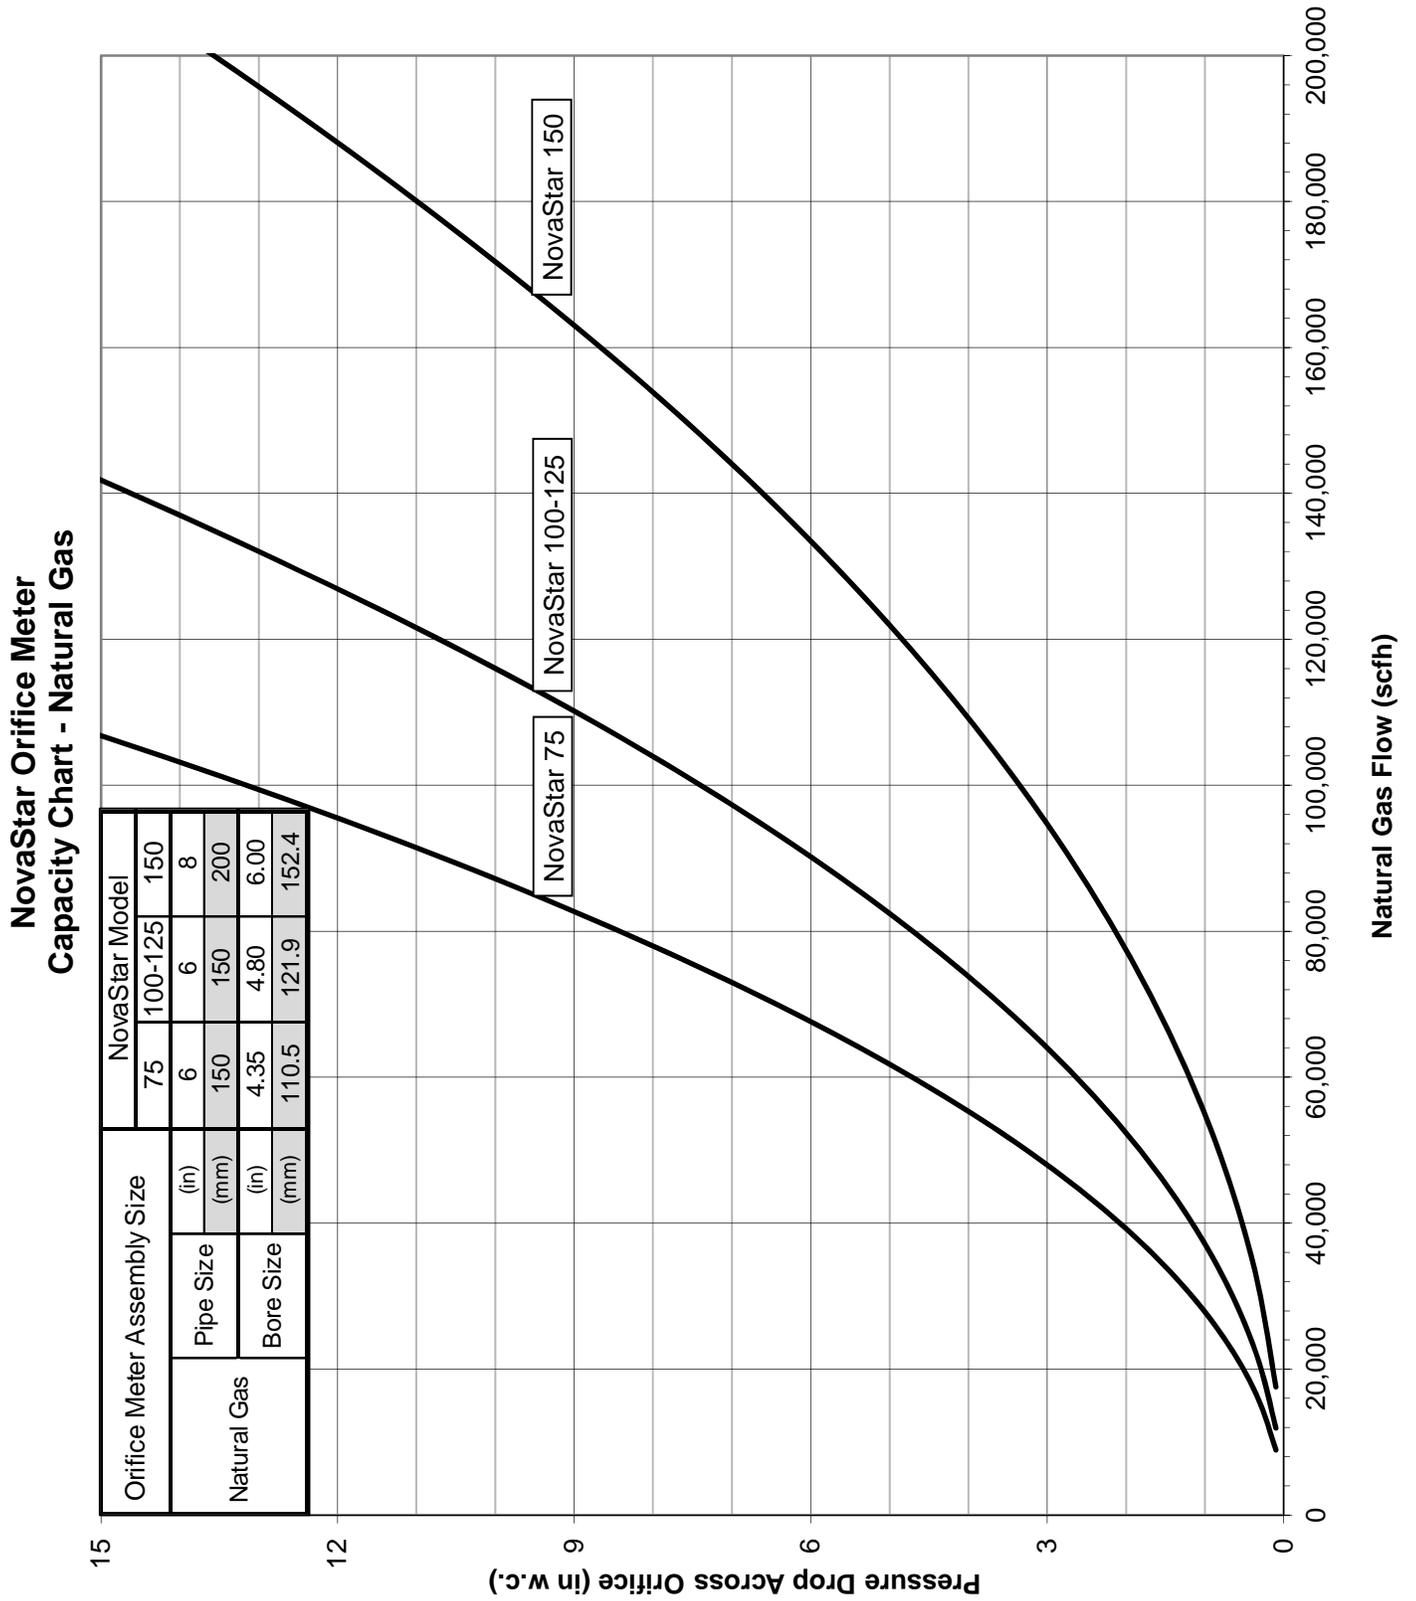
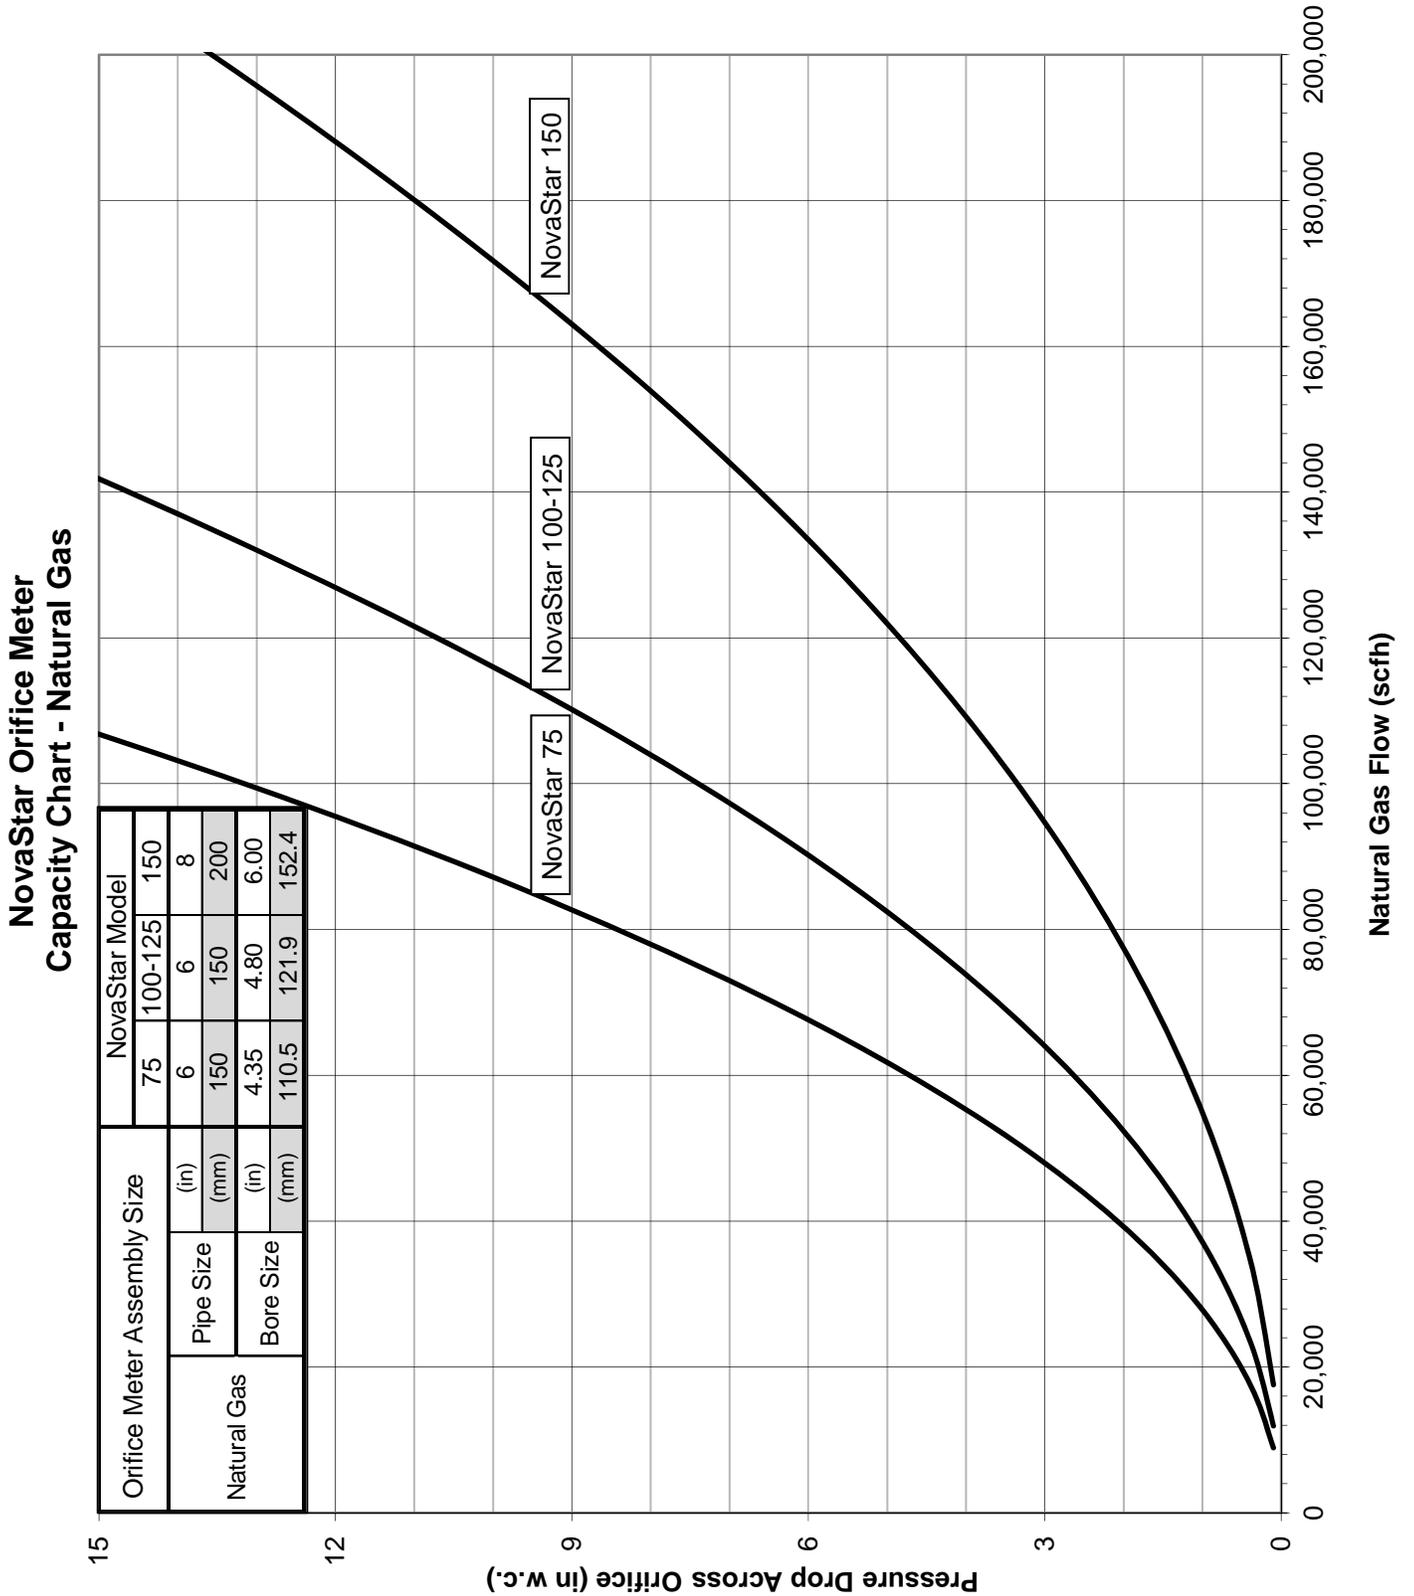
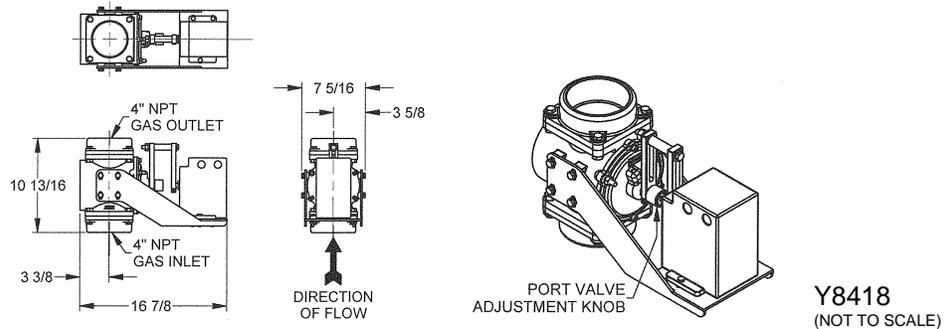

Figure 9. NovaStar Natural Gas Orifice Meter Graph
Figure 10. NovaStar Gaseous Propane Orifice Meter Graph
Figure 12. Gas Control Valve
7. The gas metering orifice manifold must be mounted downstream of the prepiped gas manifold and before the gas control valve. The manifold should be installed as shown in Figure 7, maintaining the transmitter location and orientation with respect to the direction of flow. Refer to individual burner gas orifice meter graph for gas flows through the gas orifice meter (see Figure 9 for Natural Gas and Figure 10 for Gaseous Propane).
2. **Low Fire % :** The burner's Low Fire flow is adjusted using the control valve port adjustment knob, seen in Figure 12 below, and the Low Fire % value in the BCS 6000 control panel. Adjust while using the gas metering orifice (see Orifice Meter Graphs in Figure 9 and 10) to measure and achieve the desired low fire flow rate as specified in the respective burner capacity table in Section C.
2. The burner's high fire gas flow is achieved by adjusting the outlet pressure of the gas pressure control regulator with the gas control valve at 100% open. Adjust while using the gas metering orifice (see Orifice Meter Graphs in Figure 9 and 10) to measure and achieve the desired high fire flow rate as specified in the respective burner capacity table in Section C.